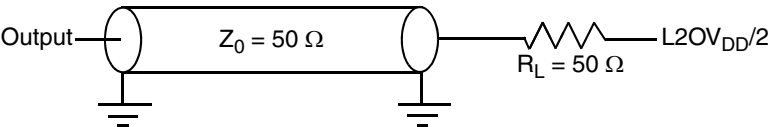

Figure 10. AC Test Load for the L2 Interface
3. All output specifications are measured from the midpoint voltage of the rising edge of L2SYNC_IN to the midpoint of the signal in question. The output timings are measured at the pins. All output timings assume a purely resistive 50- Ω load (see Figure 10).
Figure 10 provides the AC test load for L2 interface of the MPC755.